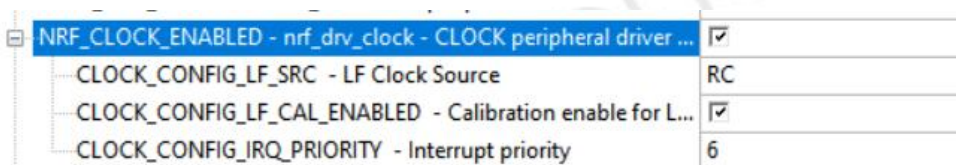

Figure 5.2: NRF_CLOCK_ENABLED
- Unfold“nRF_Drivers”->“NRF_CLOCK_ENABLED”Please modify as shown in Figure 5.2: